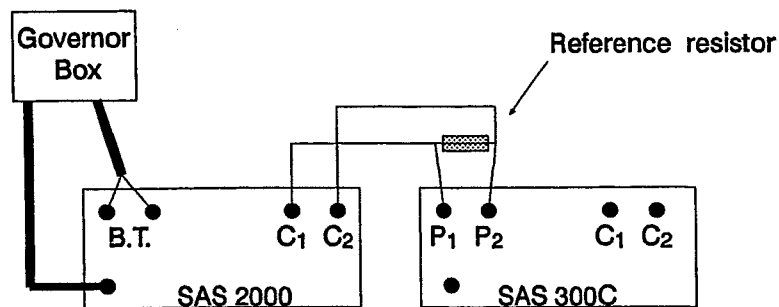

Fig 7.2 Setup for checking the governor box
- Connect the governor box to the SAS 2000 Booster, and connect the reference resistor to the SAS 300C - SAS 2000 Booster as shown in Fig. 7.2.